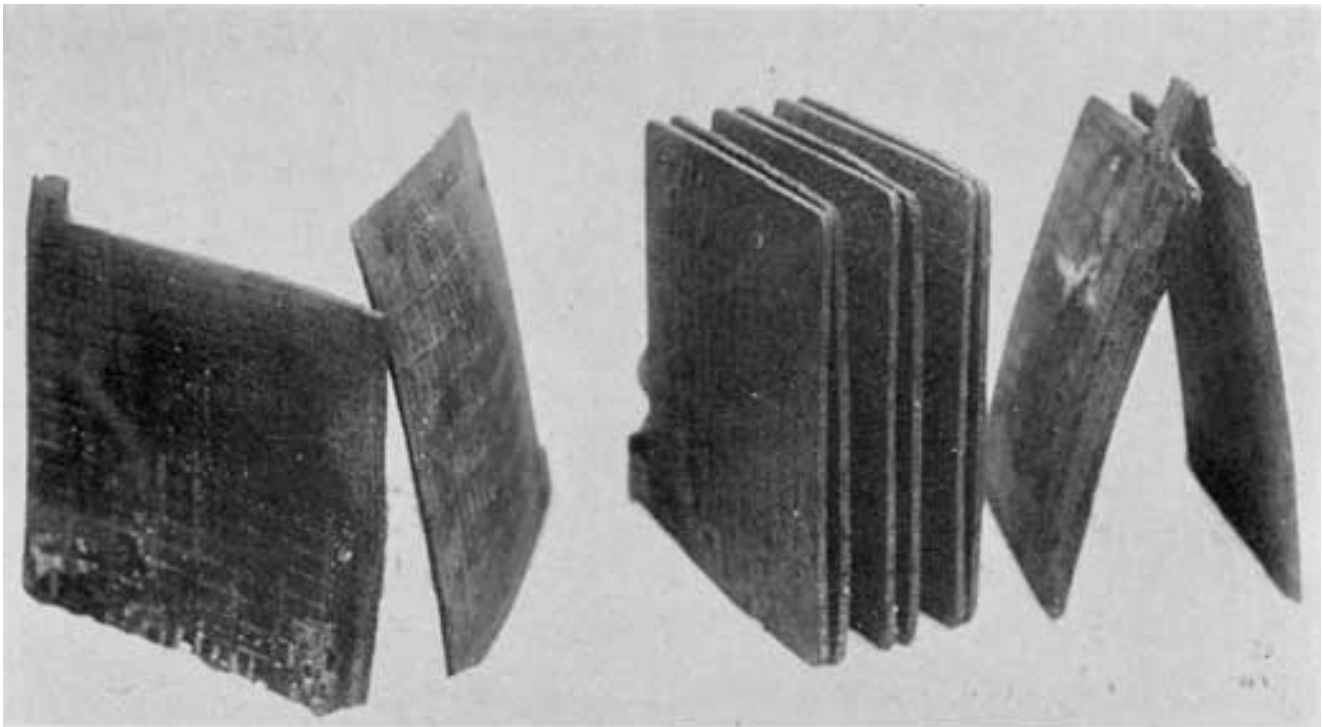

Fig. 207. Buckled Plates
3. If the positive plates are badly distorted from buckling, as in Figs. 207 and 208 discard them, for they will cut through new separators, if put into commission again, in from two to six months.